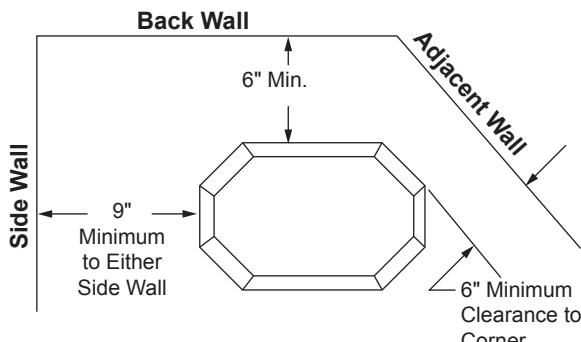

Figure 4 -
- Minimum clearances to combustibles, side-wall, ceiling, woodwork, and windows **must be maintained**. *Page 8, Figures 4 and 5.*
The dimensions shown in *Figures 4 and 5* are minimum clearances to maintain in installing this heater. Left and right clearances are determined when facing the front of the heater.
- Stove must be at least 6" from the back wall. *Figure 4*
- Stove must be at least 9" from either side wall. See *Figure 4*
- Stove must be at least 6" from the corner. *Figure 4*